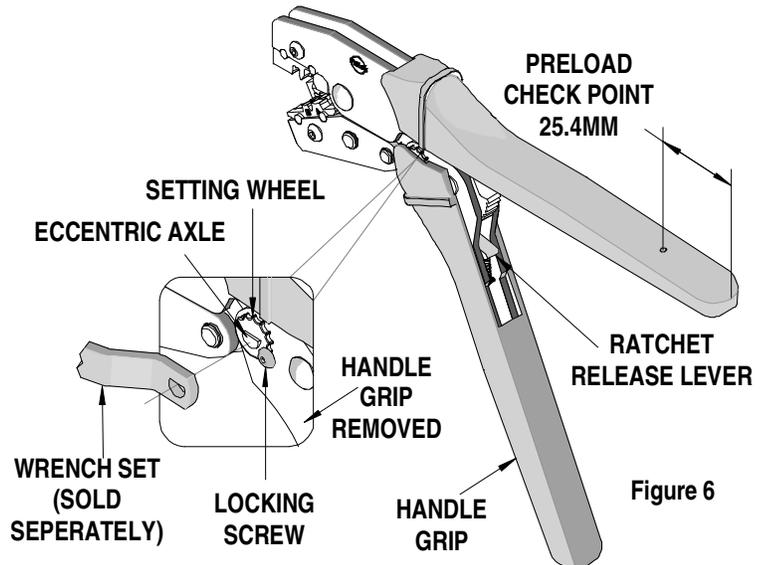

Figure 6
3. Make certain all pins; pivot points and bearing surfaces are protected with a thin coat of high quality machine oil. Do not oil excessively. The tool was engineered for durability but like any fine piece of equipment it needs cleaning and lubrication for a maximum service life of trouble free crimping. Light oil such as 30 weight automotive oil used at the oil points, every 5,000 crimps or 3 months, shown in Figure 6 will significantly enhance the tool life.
Should this tool ever become stuck or jammed in a partially closed position, **Do Not force the handles open or closed**. The tool will open easily by pressing the ratchet release lever. See Figure 6.
## How to Adjust Tool Preload (See Figure 6)